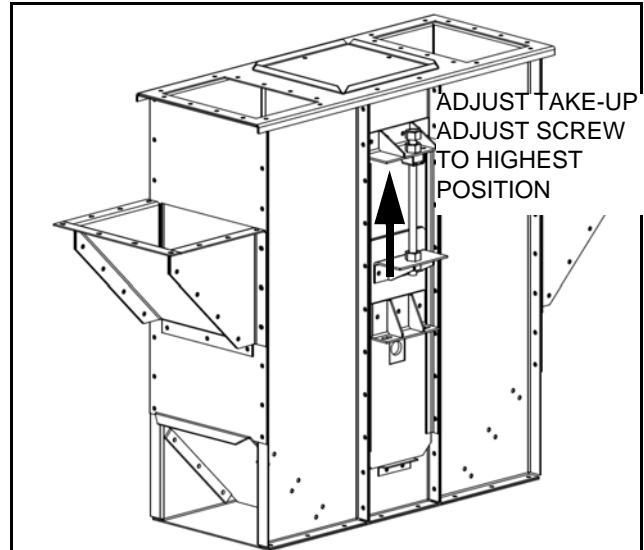

Figure 3.10
1. Using the take-up adjustment screws, raise the boot pulley to its highest take-up position (Figure 3.10).